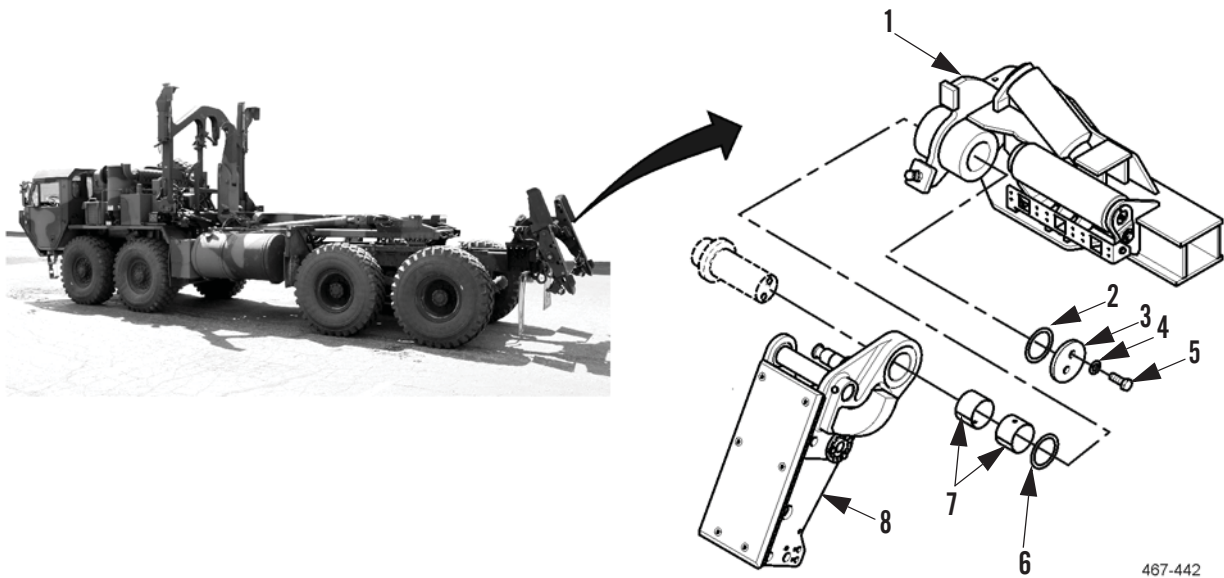

Figure 3. Rear Slider Bed Removal.
5. Attach sling and lifting device to rear slider bed (Figure 3, Item 8).
7. Remove two bolts (Figure 3, Item 5), washers (Figure 3, Item 4), end plate (Figure 3, Item 3), and shim (Figure 3, Item 2) from rear frame (Figure 3, Item 1).
8. Use lifting device to remove rear slider bed (Figure 3, Item 8) from rear frame (Figure 3, Item 1) and place on flat surface.
9. Remove two bearings (Figure 3, Item 7) and shim (Figure 3, Item 6) from rear frame (Figure 3, Item 1).